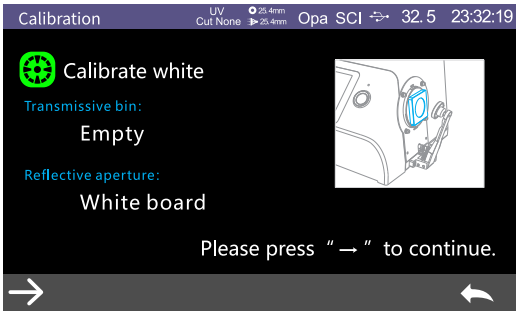

Figure 10
- 4、 It will automatically enter White Calibration after Black Calibration is finished as shown in Figure 10. Place well white plate (the same step as how to place black cavity), then press test key to start white calibration, or click  to cancel and quit the white calibration.